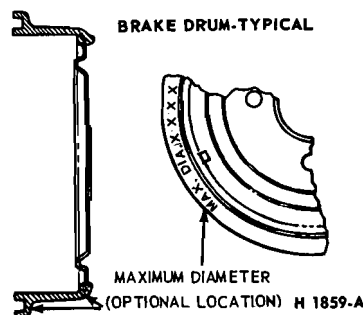

FIG. 9 Brake Drum Maximum Inside Braking Surface Diameter Marking Location
7. Inspect the brake drum and, if necessary, refinish. Brake drum maximum inside braking surface diameter is shown on each drum (Fig. 9). If the maximum inside braking surface diameter shown on the drum is exceeded either by wear or refinishing, the drum must be replaced. Refer to Part 12-02 for refinishing.